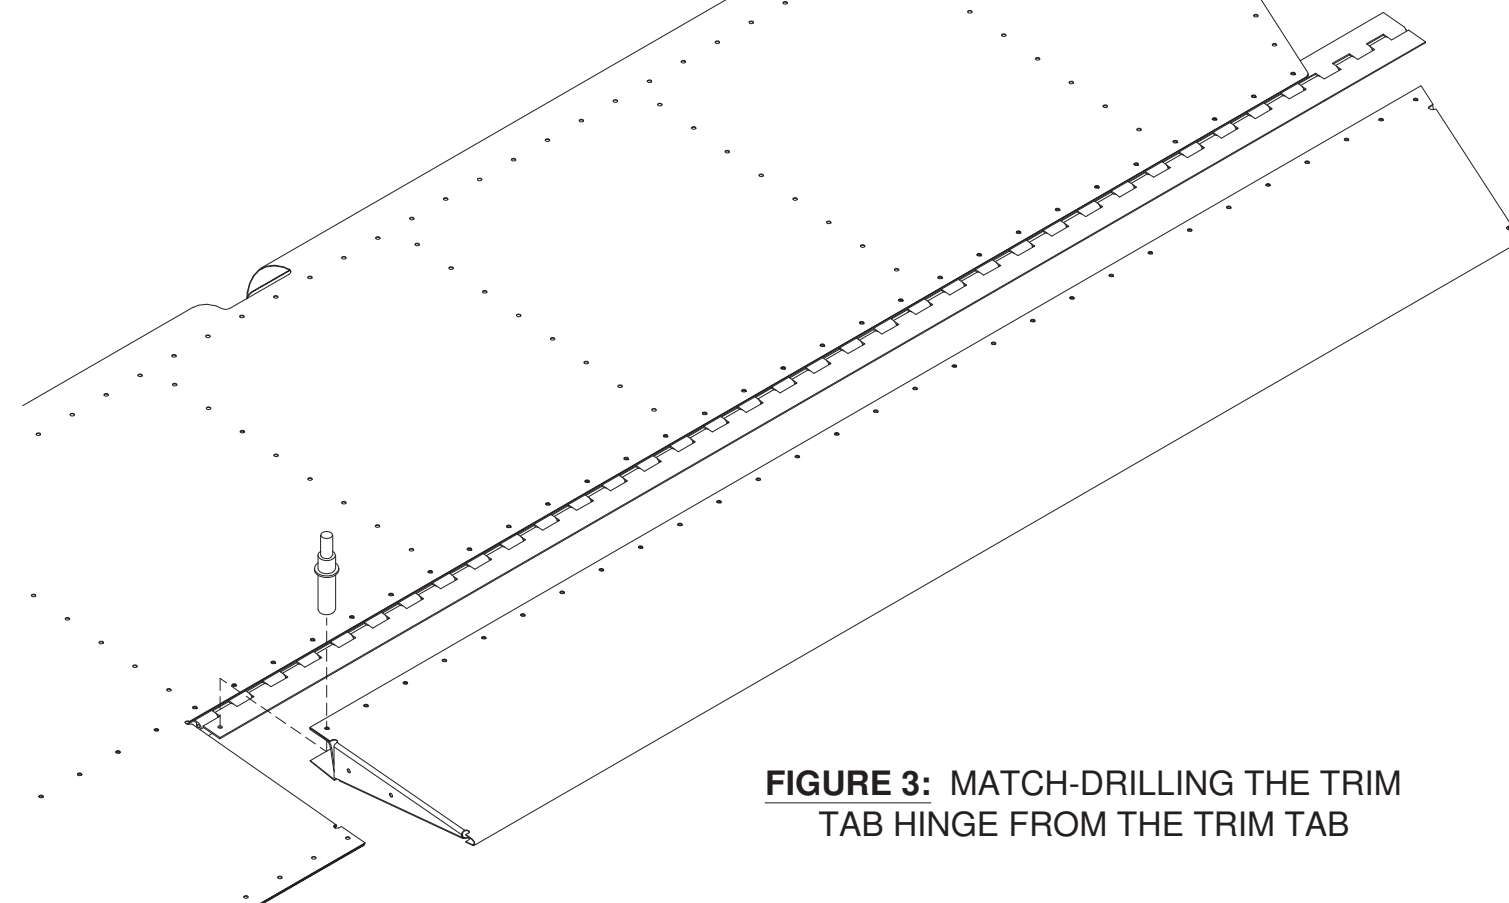

FIGURE 3: MATCH-DRILLING THE TRIM TAB HINGE FROM THE TRIM TAB
Step 4: Using the single hole in the trim tab hinge drilled in Step 2, cleco the trim tab on top of the hinge as shown in Figure 3.